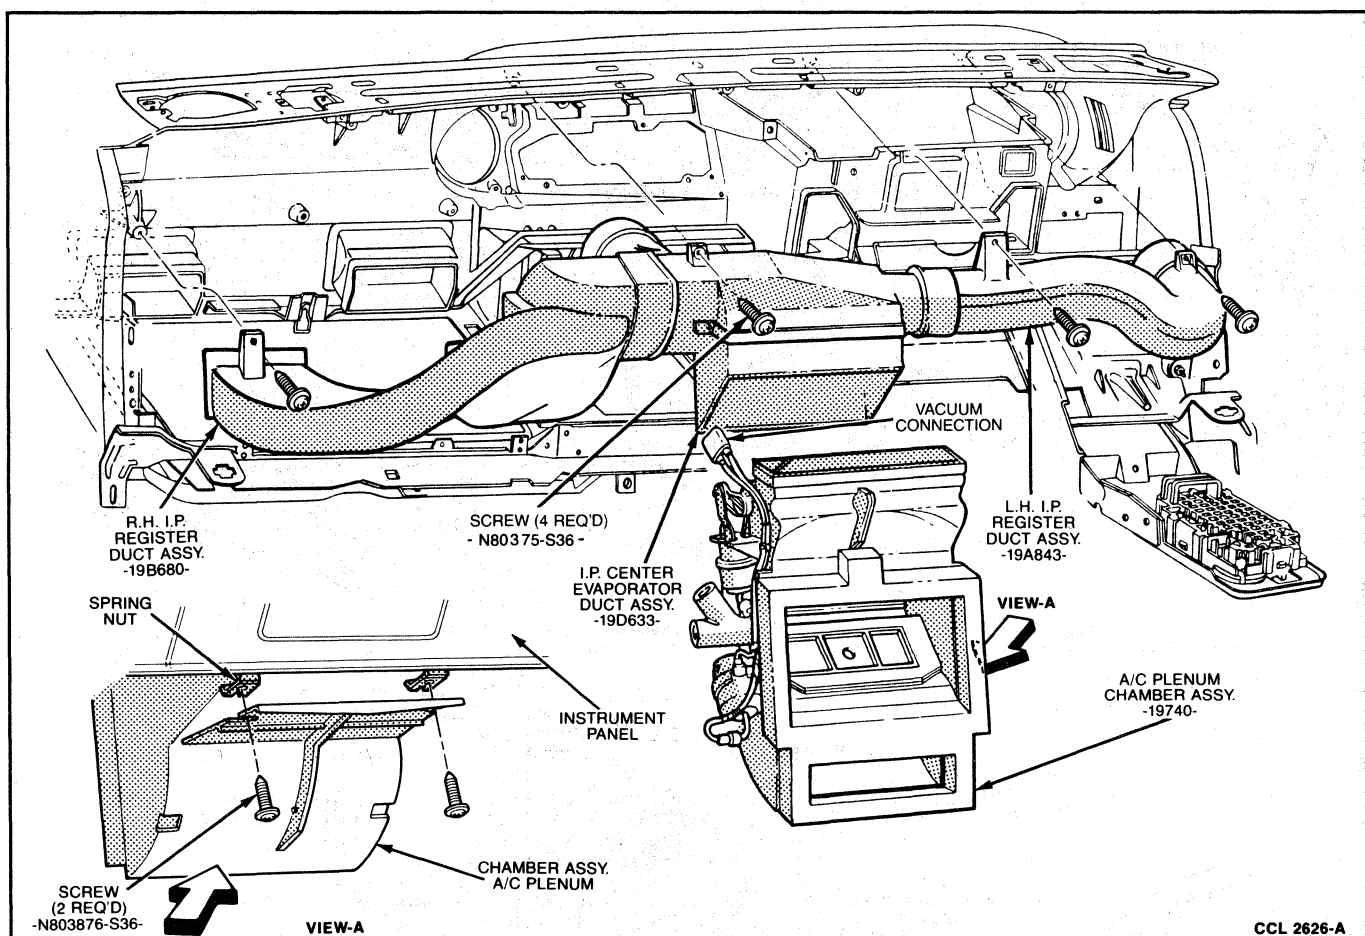

FIG. 50 A/C Plenum Chamber Attachments
- Remove two screws attaching center plenum to instrument panel and one screw attaching defroster nozzle to plenum (Figs. 50 and 51).